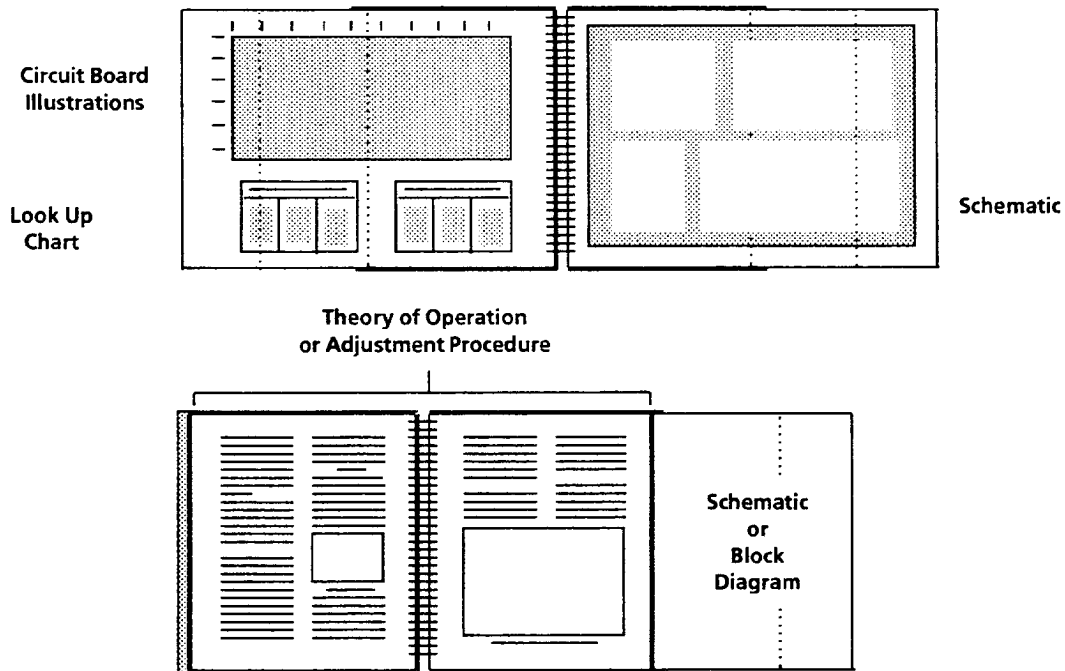

Figure 8–24: Using foldout pages
**Foldout Pages** The foldout pages at the back of the manual contain block and schematic diagrams, circuit board illustrations, and look-up charts. See Figure 8–24.